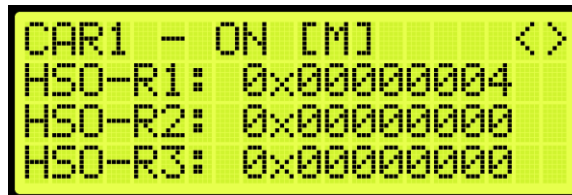

Figure 372: Rear Hall Security Map Status
10. From the Rear Hall Security Map Status (See Figure 372), press the right button.
11. From the Rear Hall Security Map Status (See Figure 372), press the right button.